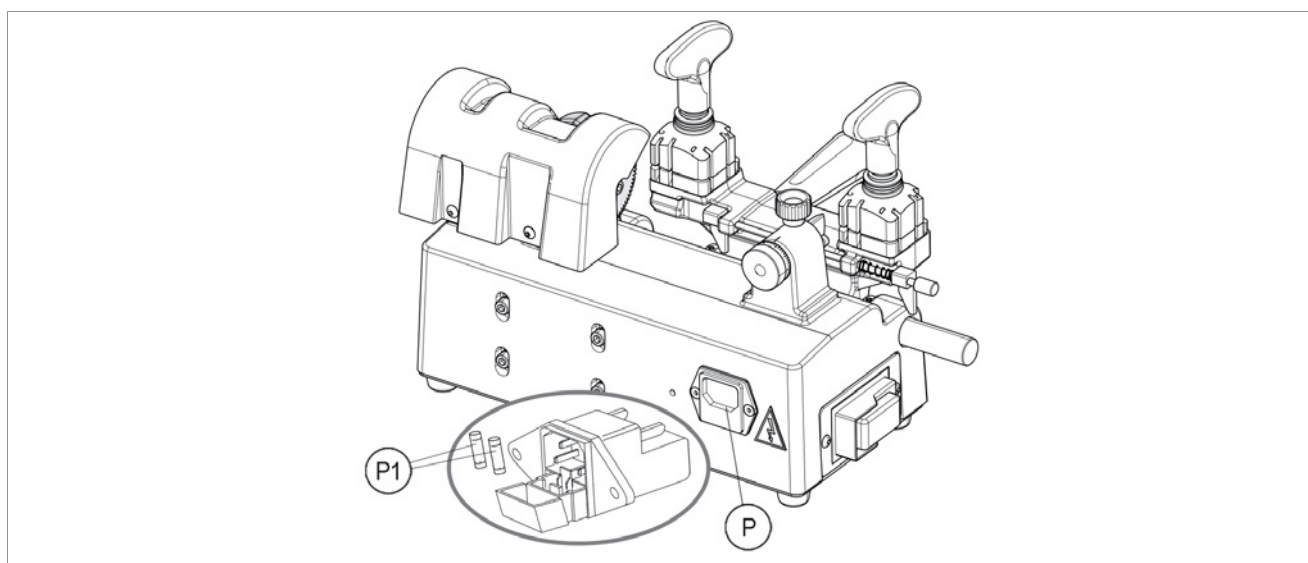

Fig. 33
- 1) Open the fuses box from the key-cutting machine socket (P) (Fig. 33).